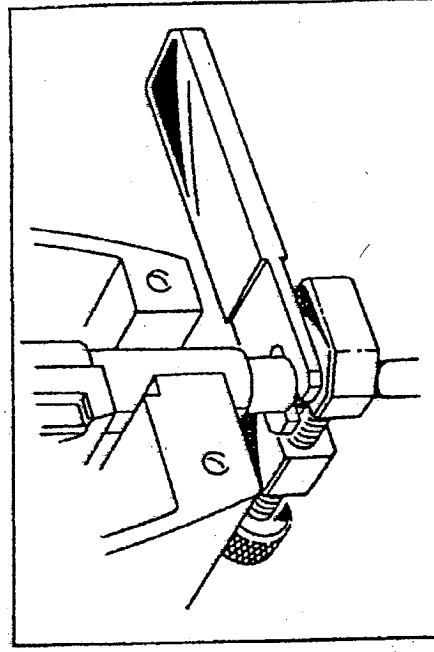

Fig. 8
14. NEEDLE - HOOK TIMING (fig.8)